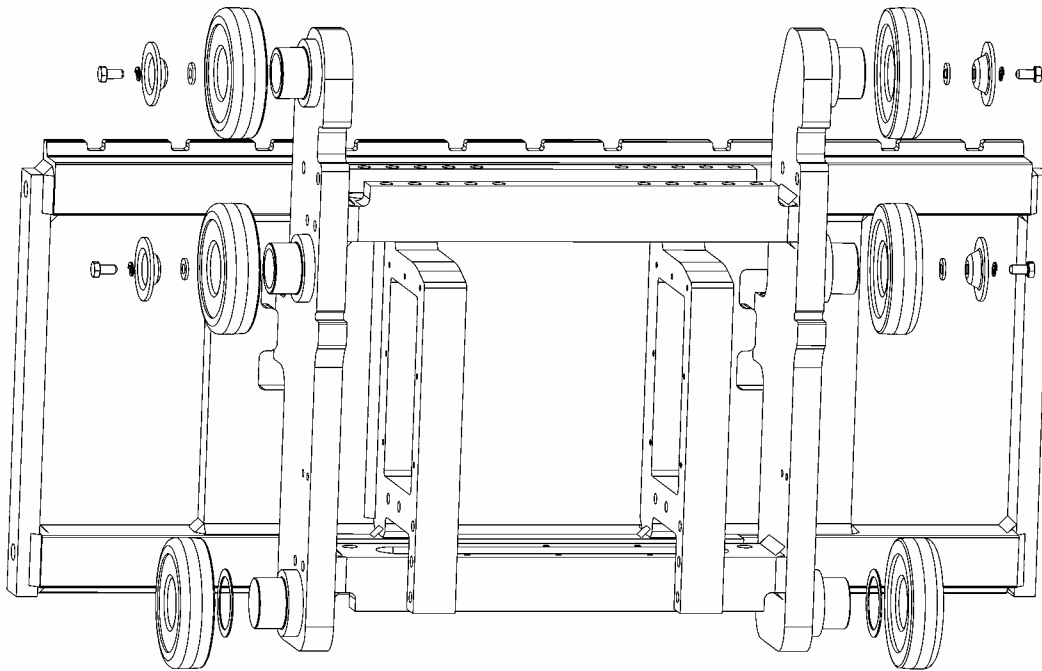

Figure 2-6: Install Main Rollers
3. Install the two lower main rollers by sliding them onto the roller shafts at the bottom of each side of the scale carriage (see Figure 2-6). Be sure to install any shims that were removed from the forklift truck's lift bracket.
4. Install the other four main rollers on the scale carriage, securing them with the bolts that were removed from the lift bracket (see Figure 2-6).